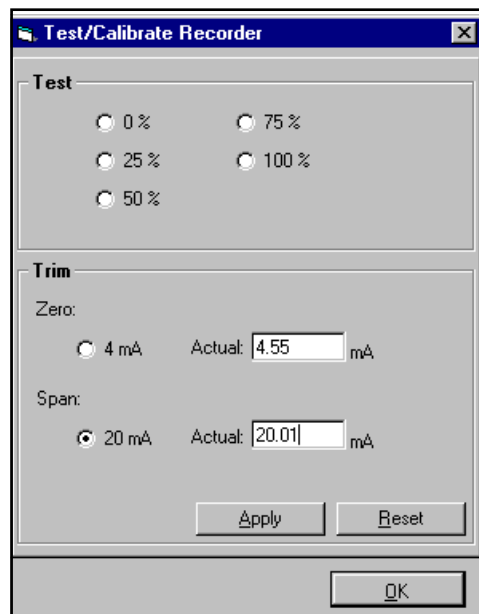

Figure 51: Test/Calibrate Recorder
3. The screen should now look similar to *Figure 51* below. Click on the **4 mA** option in the **Trim** section.